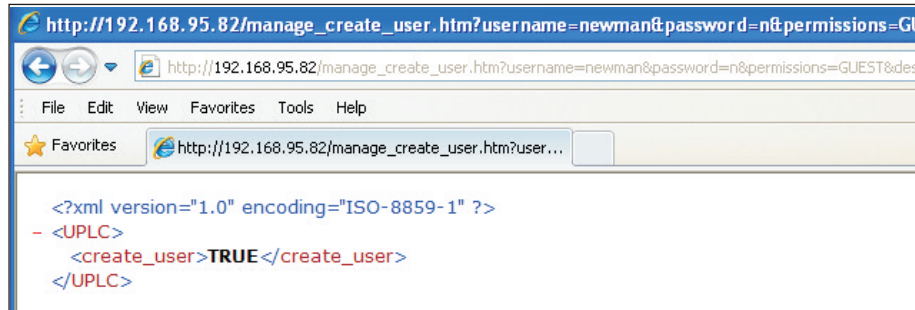

Figure D-7. Create User – Verification Return
3. Create New User (Fig. D-7 to D-10)